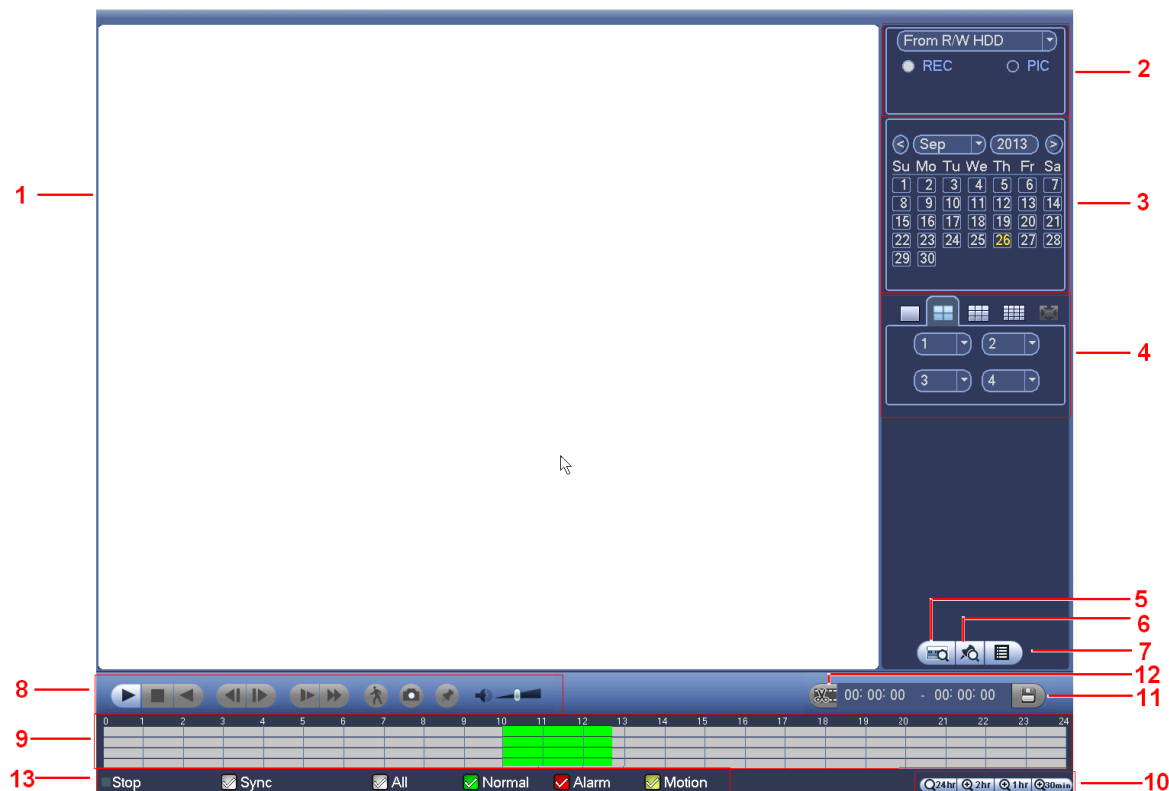
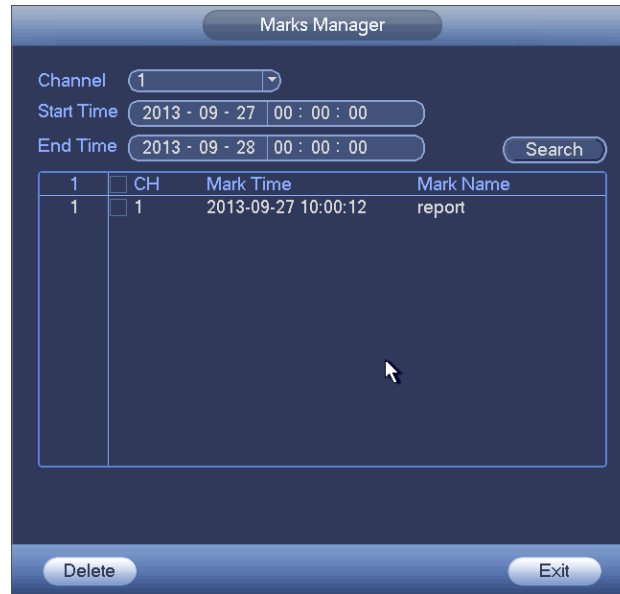

Figure 4-76
Figure 4-80
From Main menu->Search, or on the preview interface right click mouse and then select search item, you can go to the following interface. See Figure 4-76.
Please make sure your purchased device support this function. You can use this function only if you can see the mark playback icon on the Search interface (Figure 4-76).
During 1-window playback mode, click mark file list button  in Figure 4-76, you can go to mark file list interface. Double click one mark file, you can begin playback from the mark time.
Click the mark manager button  on the Search interface (Figure 4-76); you can go to Mark Manager interface. See Figure 4-80. System can manage all the record mark information of current channel by default. You can view all mark information of current channel by time.
- From Main menu->Search, or on the preview interface right click mouse, you can go to Figure 4-76.